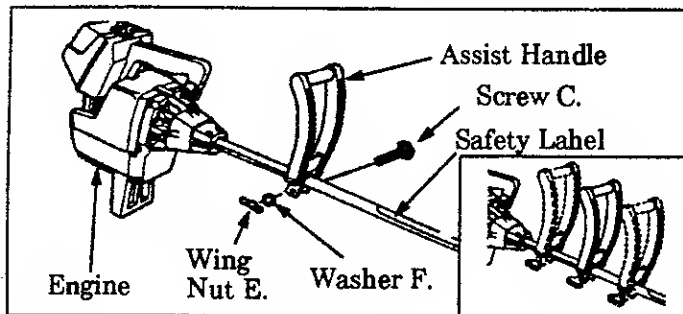

Figure 3
- Align the Assist Handle above the Safety Label and below the Engine. Figure 3.
- Insert the Assist Handle Screw "C." through the screw hole in the Assist Handle. Figure 3.
CAUTION: When adjusting the Assist Handle for comfort, be sure that the Assist Handle remains between the Engine and the Safety Label on Drive Shaft Housing. Figure 3.
- Adjust Assist Handle up or down the Shaft Housing for comfort. Figure 3 (inset).